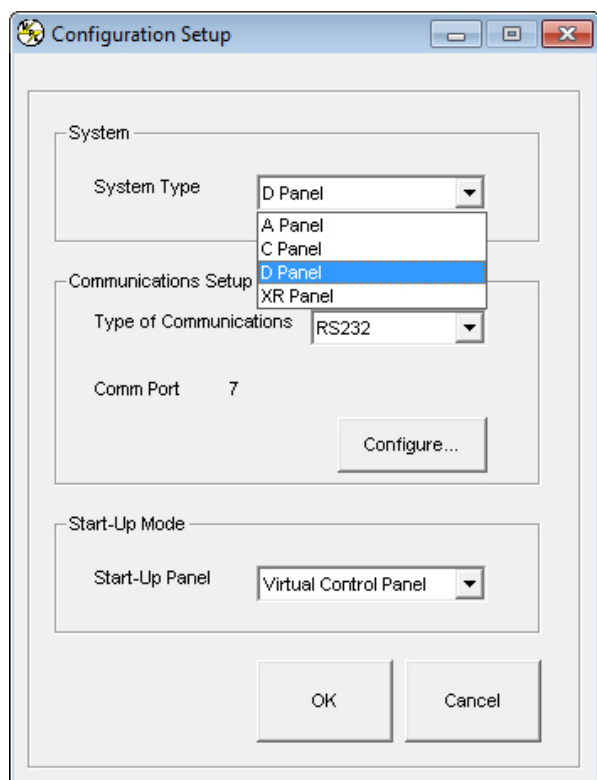

Figure 4.1. RIS Panel Configuration Setup
2. Communications interface: RS232, RS485, IEEE-488 GPIB, LXI TCP/IP Ethernet, simulated, or others depending on future developments. Figure 4.1, “RIS Panel Configuration Setup” displays the Applications Setup Window. Address requirements are: